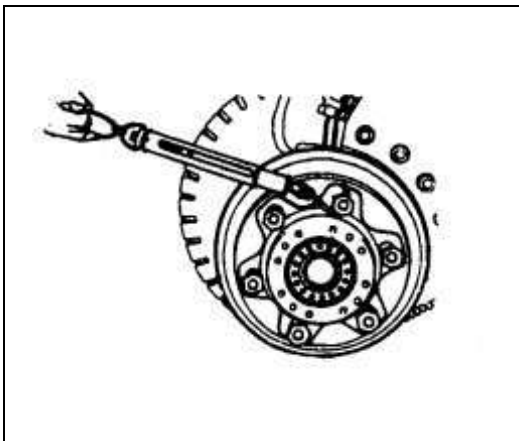

Fig.1-6
- 7) Turn wheel hub back and forth two or three rotations to see if rotation starting torque is within specifications. Rotation starting force: $10 \sim 29\text{N}$ (refer to Fig.1-6);